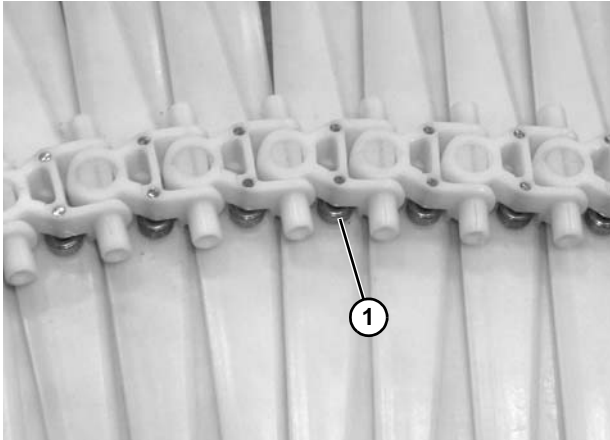

Figure 30
The stainless steel bearings (**Figure 30, item 1**) are positioned on the inside radius of the curve.